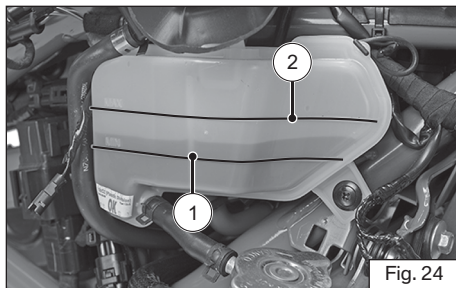

Fig. 24
- ♦ The coolant level should be between minimum and maximum level (1 & 2) on the tank (ref. Fig. 24).